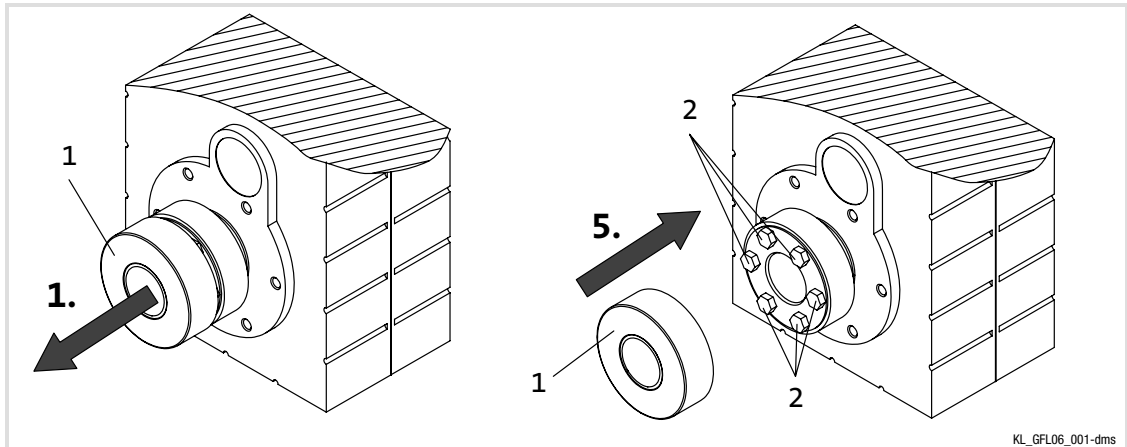

Fig. 7
8. Push protective cap (1, Fig. 7) onto the shrink disc.